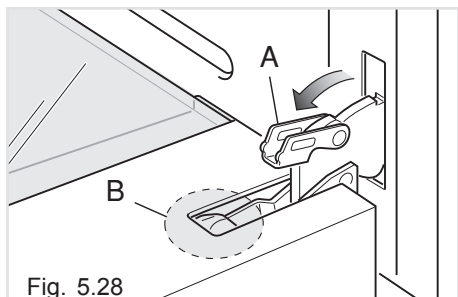
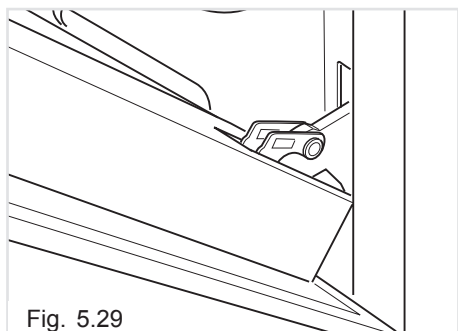

Fig. 5.28
Fig. 5.29
- Fully open the lever "A" on the left and right hinges. (fig. 5.28).
- Gently close the door (fig. 5.29) until the left and right hinge levers "A" are hooked to part "B" of the door (fig. 5.28).
1. Make sure the door is locked open (see fig. 5.29).